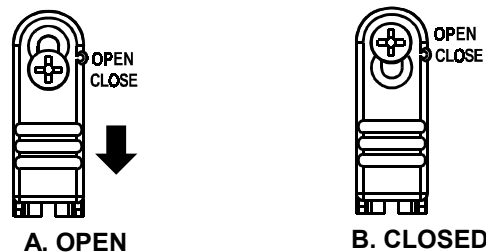

Figure 13. Locking the Bracket
- F. You will find the bracket locking device in the open position shown in Figure 13, part A.